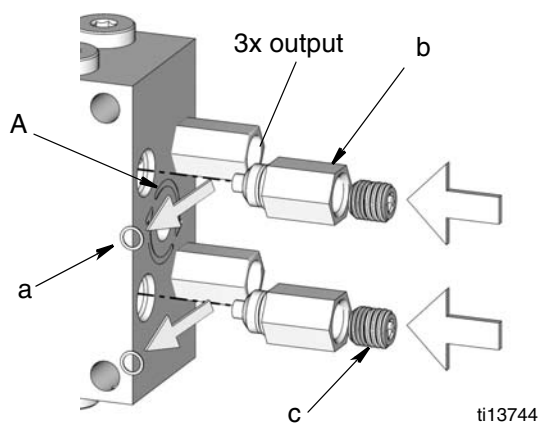

FIG. 1
- Remove face seal (a) from outlet adapter (b) (FIG. 1).
Lubricant from the plugged outlet adapter is redirected to the next outlet on the USP divider block flowing in a clockwise order, following direction arrows (A) stamped on block (see FIG. 1).
For example in FIG. 1: Removing face seals and plugging 2 outlet adapters will triple the amount of lubricant at the next outlet. This outlet will include the output of plugged outlets that are now rerouted as well as its own output.